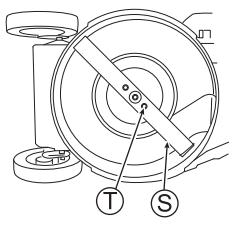

Fig. 33
2. If the blade (S) or its the blade mounting bolts (T) are "worn", "broken" or "deformed", exchange with new one(s) specified by us.
3. Confirm that the blade mounting bolts (T) are tightened by the specified torque. (See Fig. 33)
2. Fully tighten the blade mounting bolts (T) with hand.
4. Confirm that the blade mounting bolts (T) are tightened by the specified torque. (See Fig. 33)